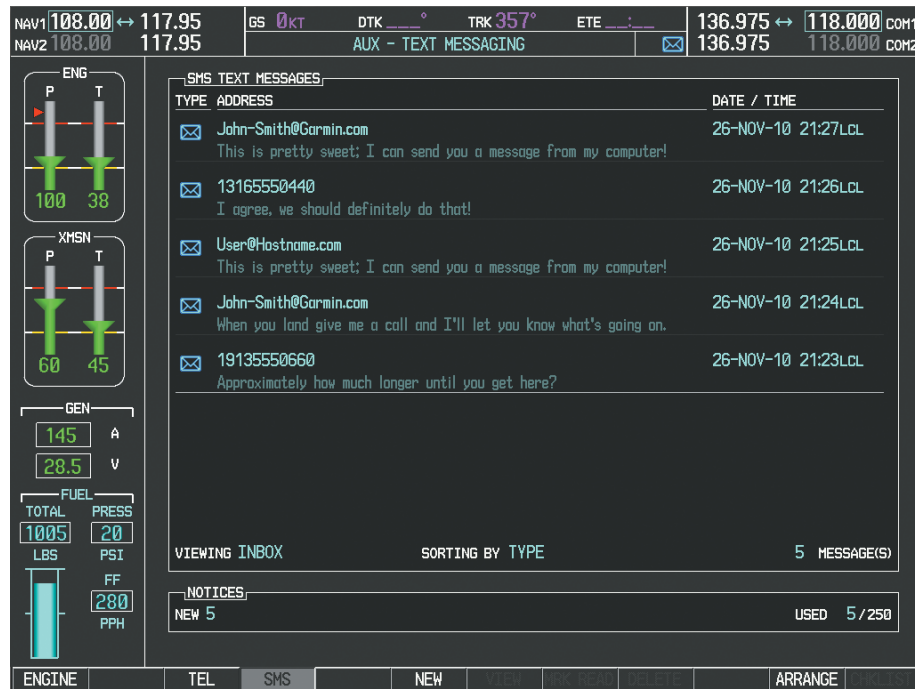

Figure 8-86 Text Messaging Page
- 3) If necessary, select the **SMS** Softkey to display the AUX-TEXT MESSAGING Page as shown in Figure 8-86.